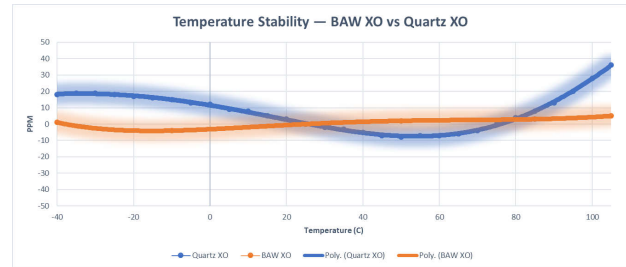

Figure 4. Temperature Stability - BAW Oscillator vs. Quartz Oscillator
- **Temperature Stability:** Uncompensated XO temperature response resembles a parabolic curve with larger ppm variation. The BAW maintains ± 10 ppm of temperature stability irrelevant of temperature range (Figure 4).